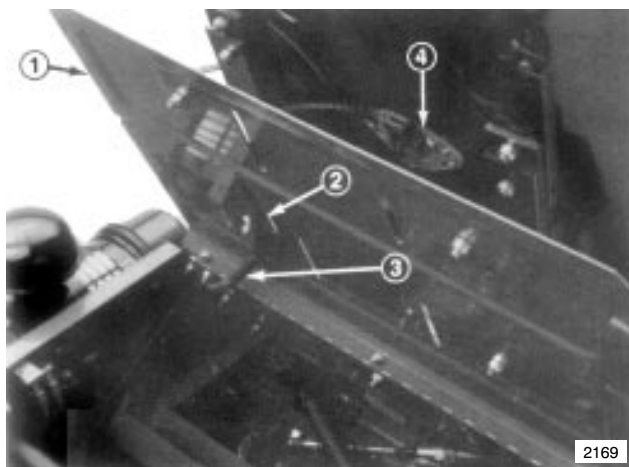

Figure 1
1. Position seat assembly onto seat plate aligning mounting holes (Fig. 1).
2. Slide wire clamp over seat switch wire (Fig. 1).
3. Using left front hole, loosely secure wire clamp and seat to seat base with capscrews and lock nuts (Fig. 1).
4. Mount seat to seat base with (3) remaining bolts and lock nuts.
5. Rout seat switch wire thru slot in seat plate and plug connector onto seat switch (Fig. 1).